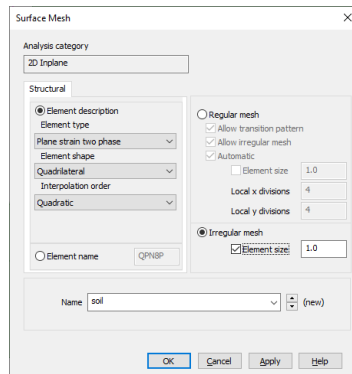

Figure 21: Definition of soil mesh
- Set the **Irregular mesh radio button**, check the **Element size** tickbox, enter **1.0** into the element size field. Enter the name to be **soil** and click **OK** (figure 21).